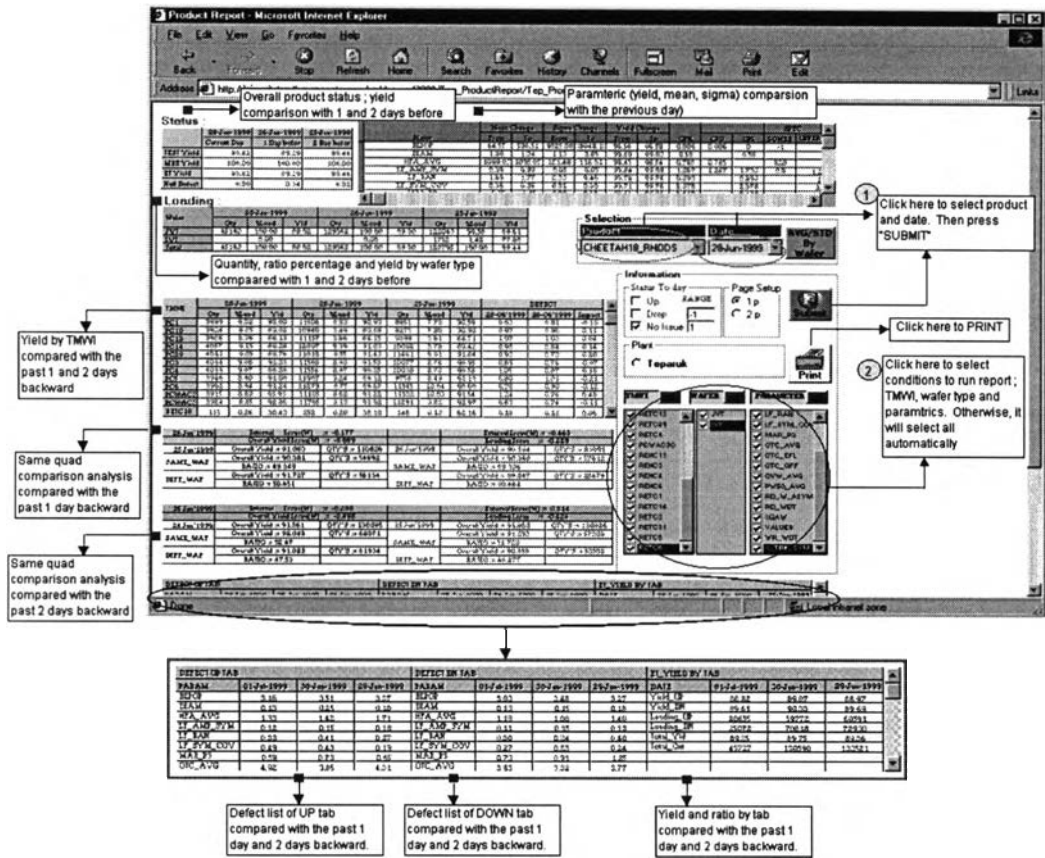

Figure 2 Product Report
- 1) Product Report : this report contains all necessary information which compares the current situation with the historical information backwards 2 days. See figure 2.